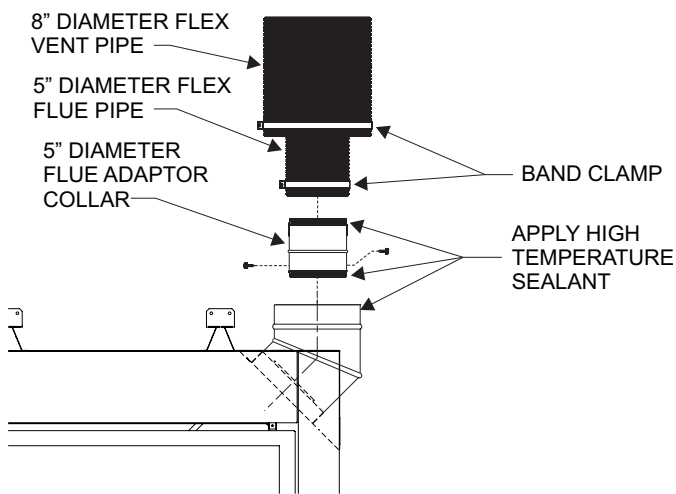

Figure 57
5. Install the Wall Firestop/Thimble assembly as required through the wall. Refer to the venting charts in the fireplace manual to determine the proper height and size of the vent opening. The minimum opening should be 10in wide by 12in high. The minimum combustible clearance from the horizontal vent is 1in from sides and bottom, and 3in above the vent pipe. See **Figure 57**.
10. Apply sealant to the outside of the flue pipe adapter and connect to the flex flue pipe. Then insert the adapter into the 45° elbow's inner flue pipe. Secure flue adapter with a minimum of two screws provided. **See Figure 57.**